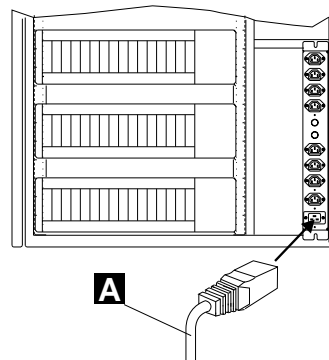

Figure 3. Installing the power cord.
- ___ 1. Plug one power cord **A**, provided with the MES, onto the ac outlet distribution box in location **I** (See Figure 3),